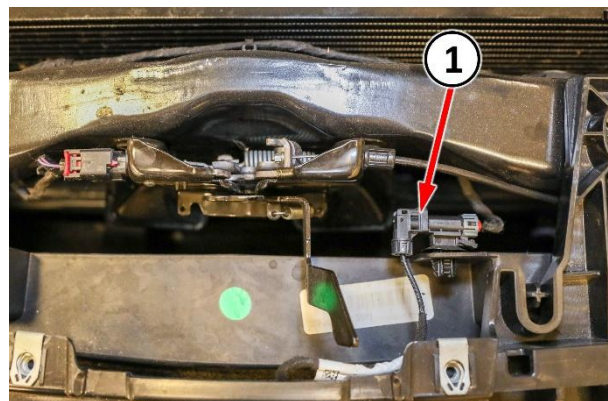

Figure C5 – Front Camera Connector
8. If equipped, disconnect the front camera electrical connector located near the hood latch (Figure C5).
32. Connect the front camera wire harness, if equipped (Figure C5).